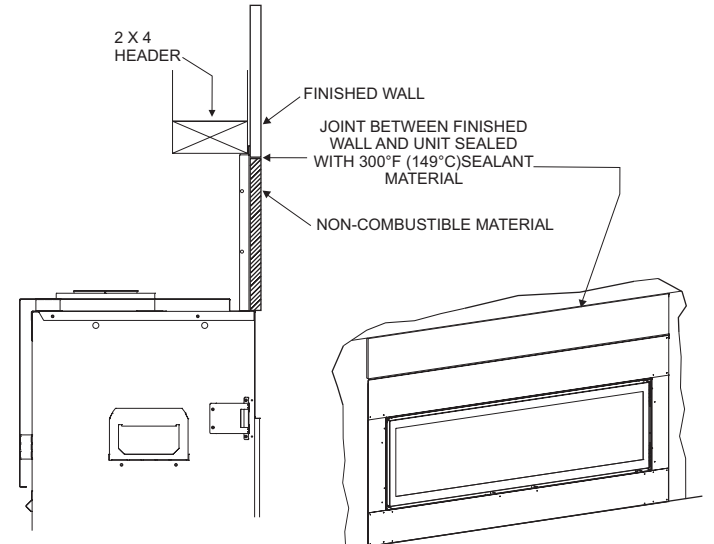

Figure 29
- Non-Combustible board installed over the fireplace face (framing bracket flush). See Figure 29.